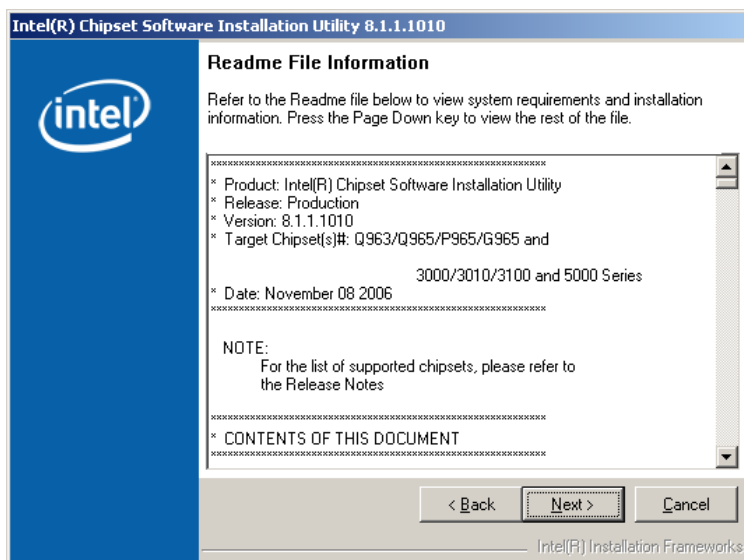

Figure 7-5: Chipset Driver Readme File Information
Step 10: The **Readme** file in **Figure 7-5** appears.